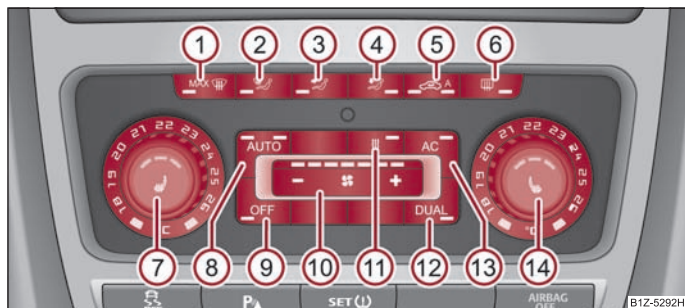

Fig. 108 Climatronic: Control elements
- Press the button  ⇒ page 98, fig. 108.
- Press the button (AC) ⇒ fig. 108. The warning light lights up in the button.
- When you again press the switch (AC), the cooling system is switched off. The warning light in the button goes out. Only the function of the ventilation remains active when no lower temperature than the outside temperature can be reached. ■
- You can set the temperature for both sides after switching on the ignition with the control dial (7) → page 98, fig. 108.
- If you wish to set the temperature for the right side, turn the control dial (14). The warning light in the button (DUAL) lights up, this indicates that differing temperatures for the left and right side can be set.
- If the windscreen mists up, press the button (MAX) (1) → page 98, fig. 108. After the windscreen has been demisted, press the button (AUTO).